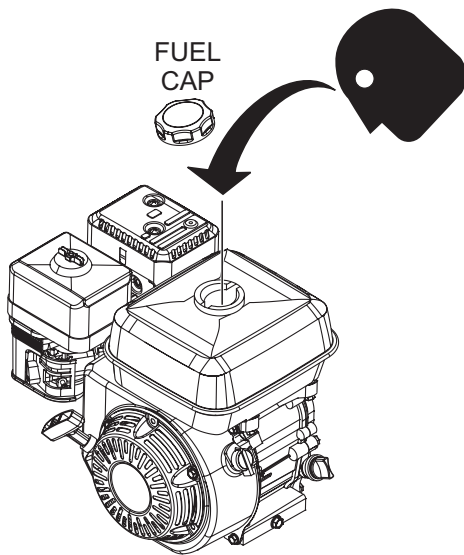

Figure 13. Fuel Check
1. Remove the fuel cap (Figure 13) located on top of fuel tank.